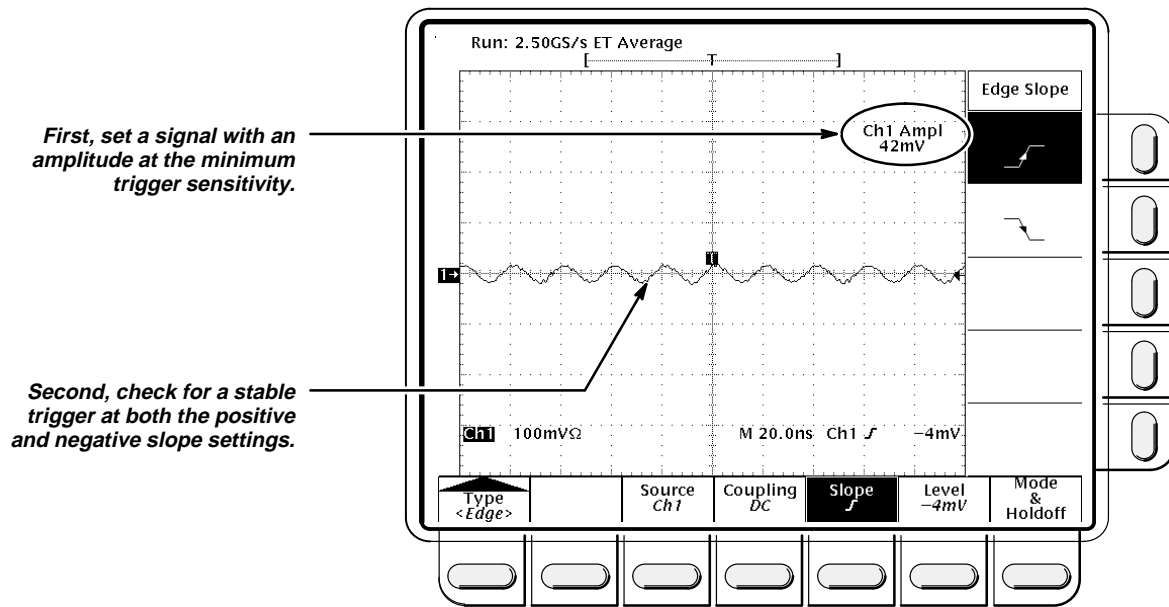

Figure 1-20: Measurement of Trigger Sensitivity
- Press **SET LEVEL TO 50%**. CHECK that a stable trigger is obtained for the test waveform on both the positive and negative slopes. (Use the side menu to switch between trigger slopes; use the **TRIGGER LEVEL** knob to stabilize the trigger if required.) See Figure 1-20.